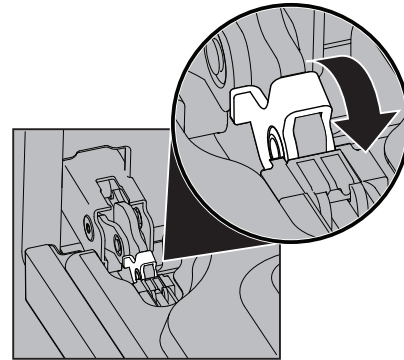

Figure 18: Door hinge lock
2. Pull up the lock located on each hinge support toward front of the oven until the lock stops. You may have to apply a little upward pressure on the lock to pull it up (Figure 18).
4. Push the door hinge locks up toward and into the oven frame on both left and right oven door hinges to the locked position (Figure 18).